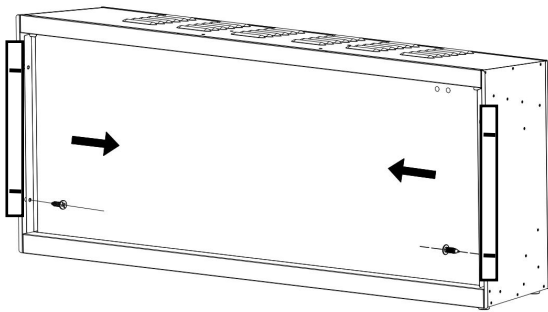

Fig. 3-1
- A. With the front glass removed, take off the screws on both side.(Fig. 3-1)